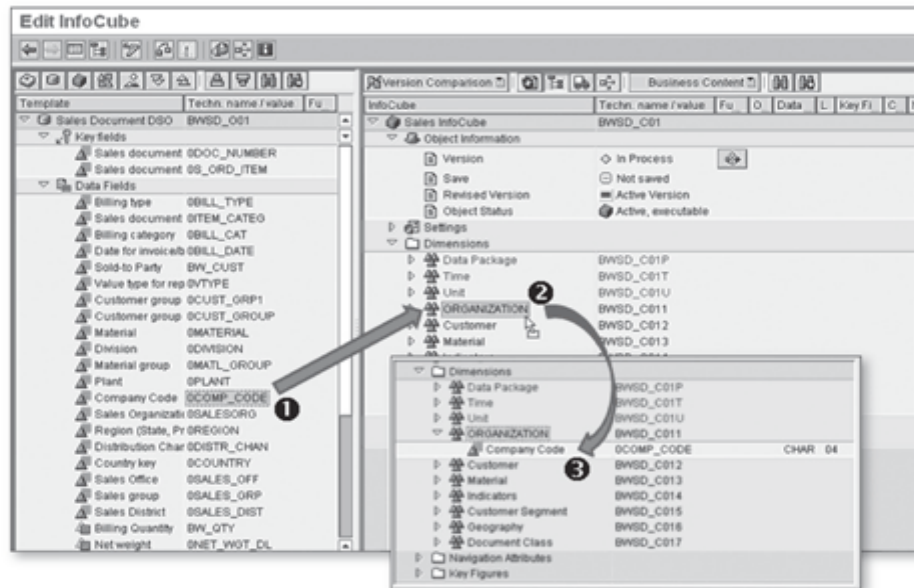

Figure 5.16 Attaching Characteristics Using a Template
As shown in Figure 5.16, using the DSO BWSD_O01 template gives you an already-populated list of InfoObjects.
Let's assign a few InfoObjects from this list as characteristics to the dimensions of the InfoCube. Select the InfoObject —`OCOMP_CODE` (❶ of Figure 5.16) — and drag and drop it over the dimension, `ORGANIZATION` (❷). With this action, you assign the selected characteristic to the desired dimension (❸). To state this in SAP NetWeaver BW terminology, characteristic `OCOMP_CODE` is assigned to the Organization dimension.